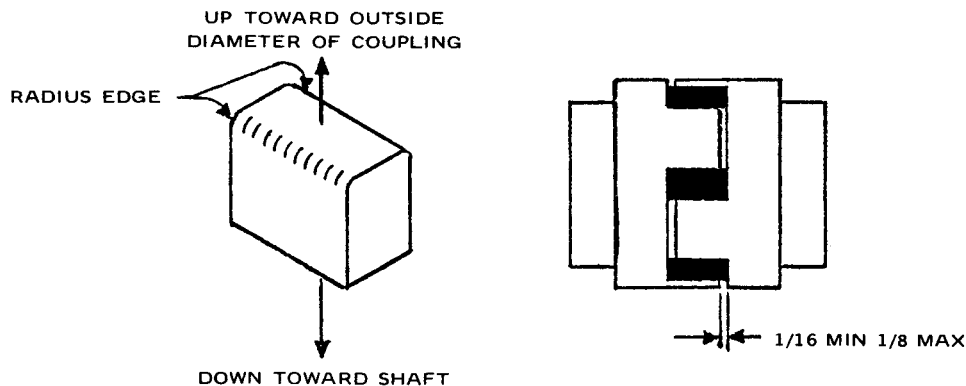
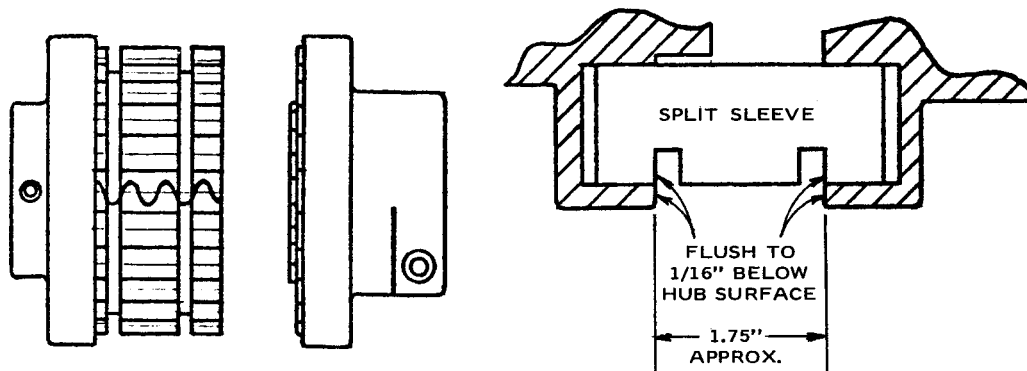

FIGURE 1-7. — INSTALLATION OF COUPLING CUSHIONS
FIGURE 2-7. — INSTALLATION OF SPLIT SLEEVE
COUPLING — The motor and compressor are direct connected by a resilient type flexible coupling. Depending on type, coupling will have either several individual cushions, Figure 1-7, or a split toothed sleeve, Figure 2-7. Neither coupling type requires lubrication.
Individual Cushion Design (Figure 1-7):
3. Working through cover plate opening, center coupling over gap between shafts, maintaining gap as shown in Figure 1-7 between the ends of the jaws on one coupling body and the flange on the opposite coupling body. Tighten set screws in each coupling body.
4. Insert individual cushions as shown in Figure 1-7 and slide collar over cushions and secure with cap screws. Reinstall the cover plate.
Split Sleeve Design (Figure 2-7):
3. Working through cover plate opening, center coupling halves over gap in shafts. See Figure 2-7 for hub spacing.
6. Slide long hub over split sleeve. Split sleeve should be uniformly flush to 1/16" below surfaces of each hub (Figure 2-7).